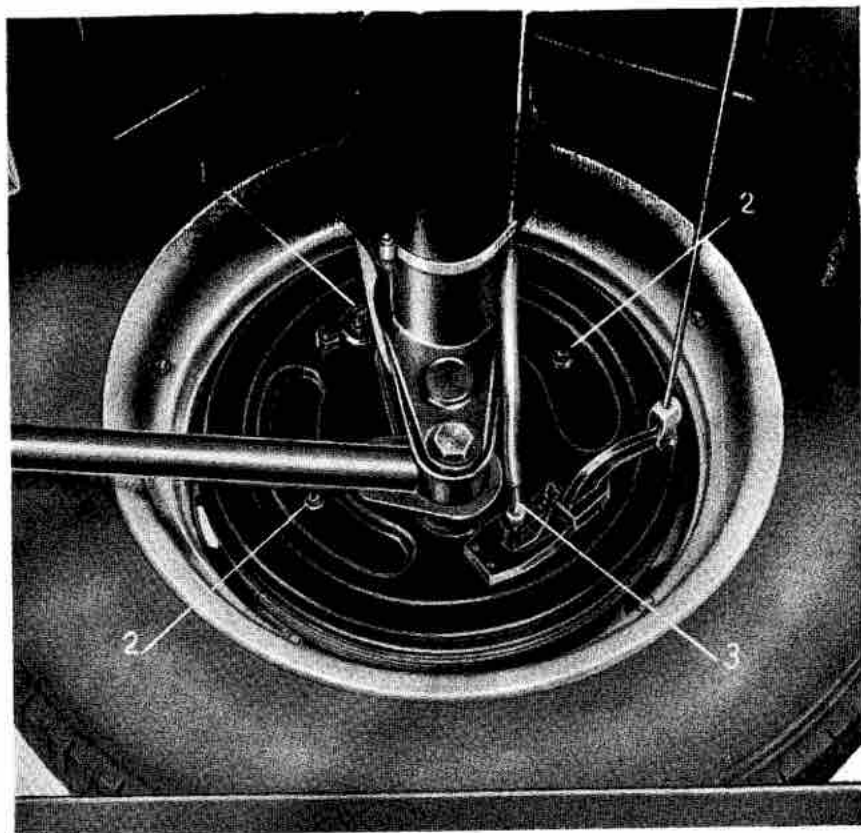
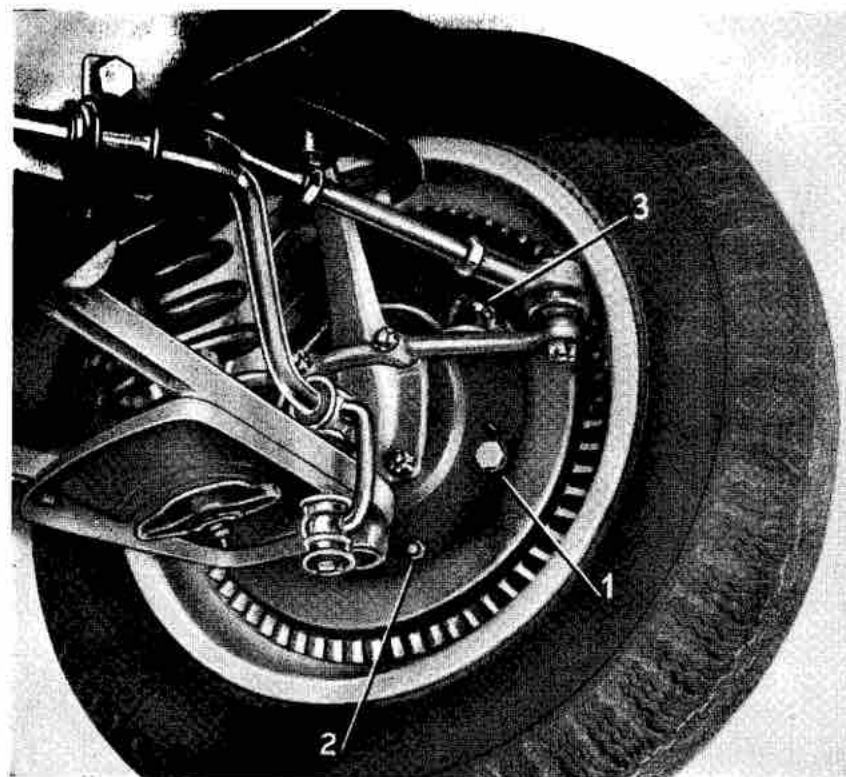

Fig. 39. - Adjustment of clearance between brake linings and drums for bleeding the rear wheel brake cylinders.
Fig. 40. - Adjustment of clearance between brake linings and drums; bleeding the front wheel hydraulic brake cylinders.
- 2) Release the air from the rear wheel cylinders, one at a time, as follows (see fig. 39).
- 3) Release the air from the front wheel cylinders as follows: (see fig. 40).
...nders as follows: (see fig. 40).
It is therefore necessary to adjust the clearance between the brake linings and drums at least every 10000 Km. (6000 miles); this is done by turning the cams **1** (fig. 40) in the case of the front wheels, and the adjustment device **1** (fig. 39), in the case of rear wheels.